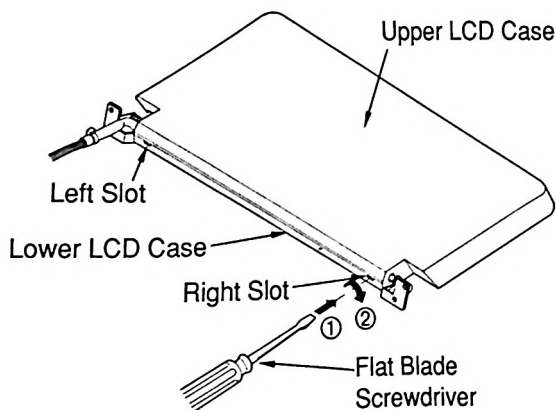

Figure 20
- (6) Turn over the LCD panel and insert the flat blade screwdriver in the slot of the lower LCD case as shown in Figure 20. Then, gently twist the screwdriver to separate the upper LCD case from the lower case.
- (7) Repeat the same procedure mentioned above for the left slot of the lower LCD case.